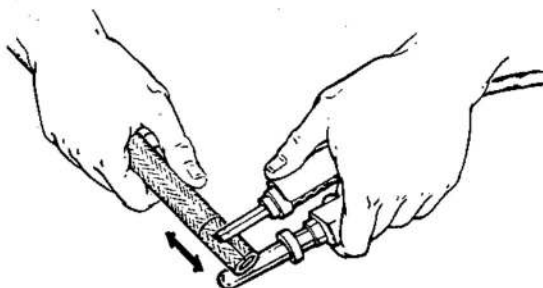

Fig. 19
22.7 Remove the tool from the hose, position the tool at right angles to the mandrel (fig 19) and draw it slowly across the hose cover to split the polyester covering.